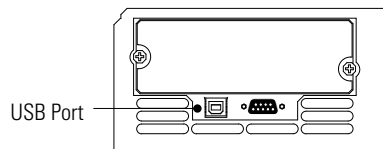

Figure 22. The USB Port
1. Connect the USB cable to the USB port on the UPS rear panel (see Figure 22).